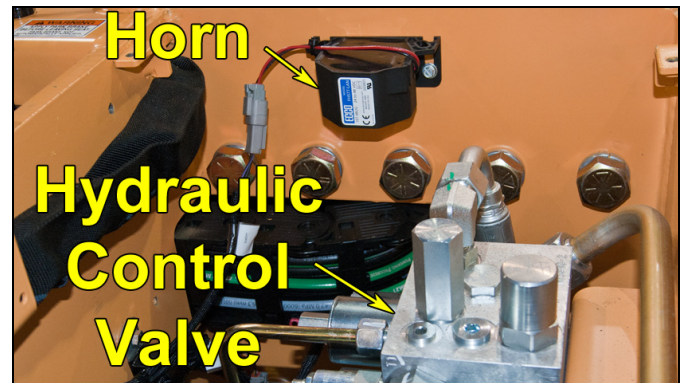

Figure 3-43: Horn Location
4. Remove the hex screws and hardware to separate the horn from the frame. See Figure 3-43 for reference.